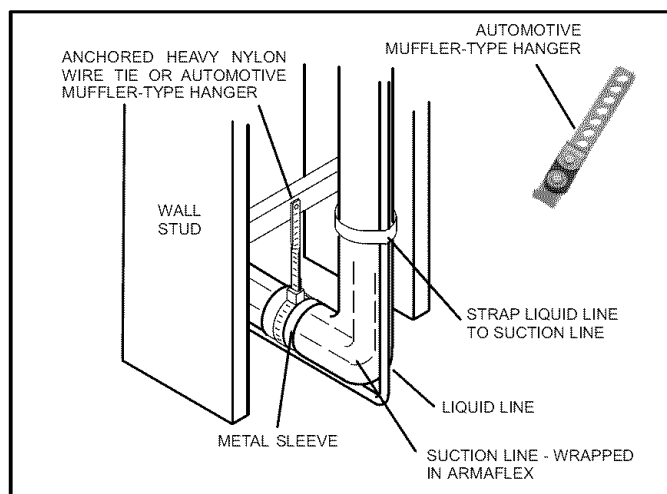

Figure 14. Refrigerant Line Set: Transition from Vertical to Horizontal
- Installation of a **transition from horizontal to vertical** is illustrated in figure 14.